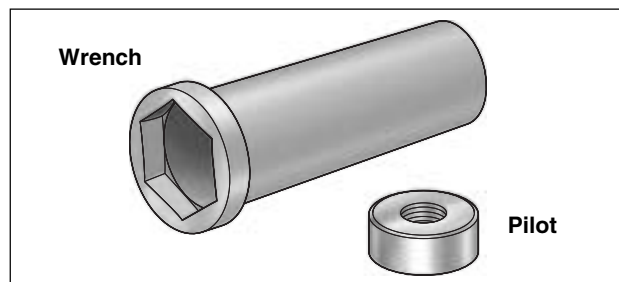
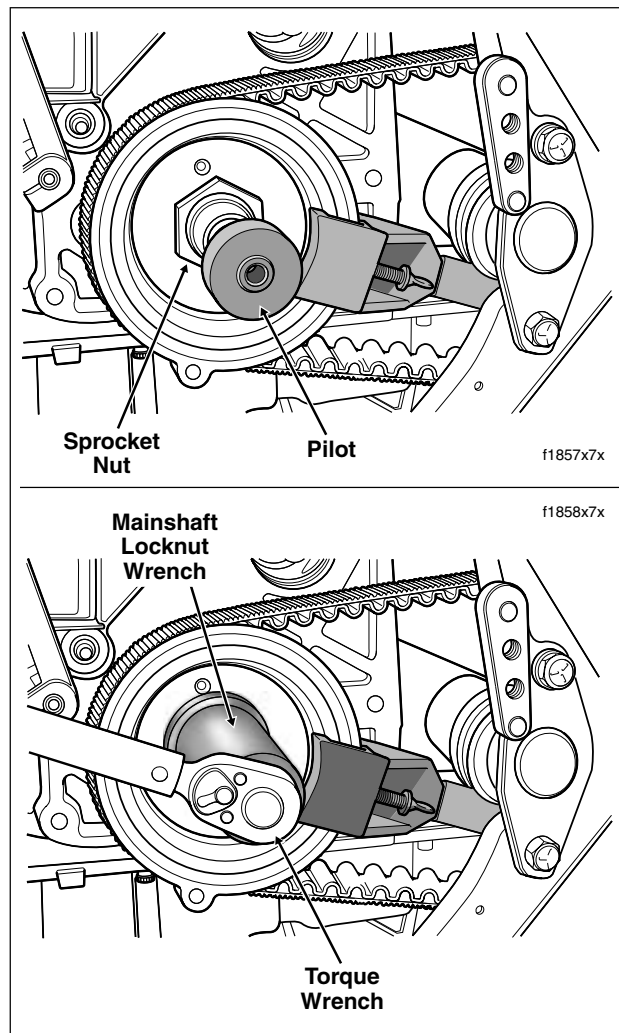

Figure 7-35. Mainshaft Locknut Wrench/Pilot (Part No. HD-94660-37B)
Figure 7-36. Install Mainshaft Locknut Pilot/Wrench and Torque Sprocket Nut
8. Install pilot of MAINSHAFT LOCKNUT WRENCH (Part No. HD-94660-37B) on threaded end of mainshaft. See Figure 7-35. Slide sleeve of locknut wrench over pilot and onto sprocket nut. Tighten sprocket nut to 60 ft-lbs (81 Nm). As the nut is tightened the handle of the sprocket locking tool rises to contact the pivot shaft, thereby preventing sprocket/mainshaft rotation. See Figure 7-36.